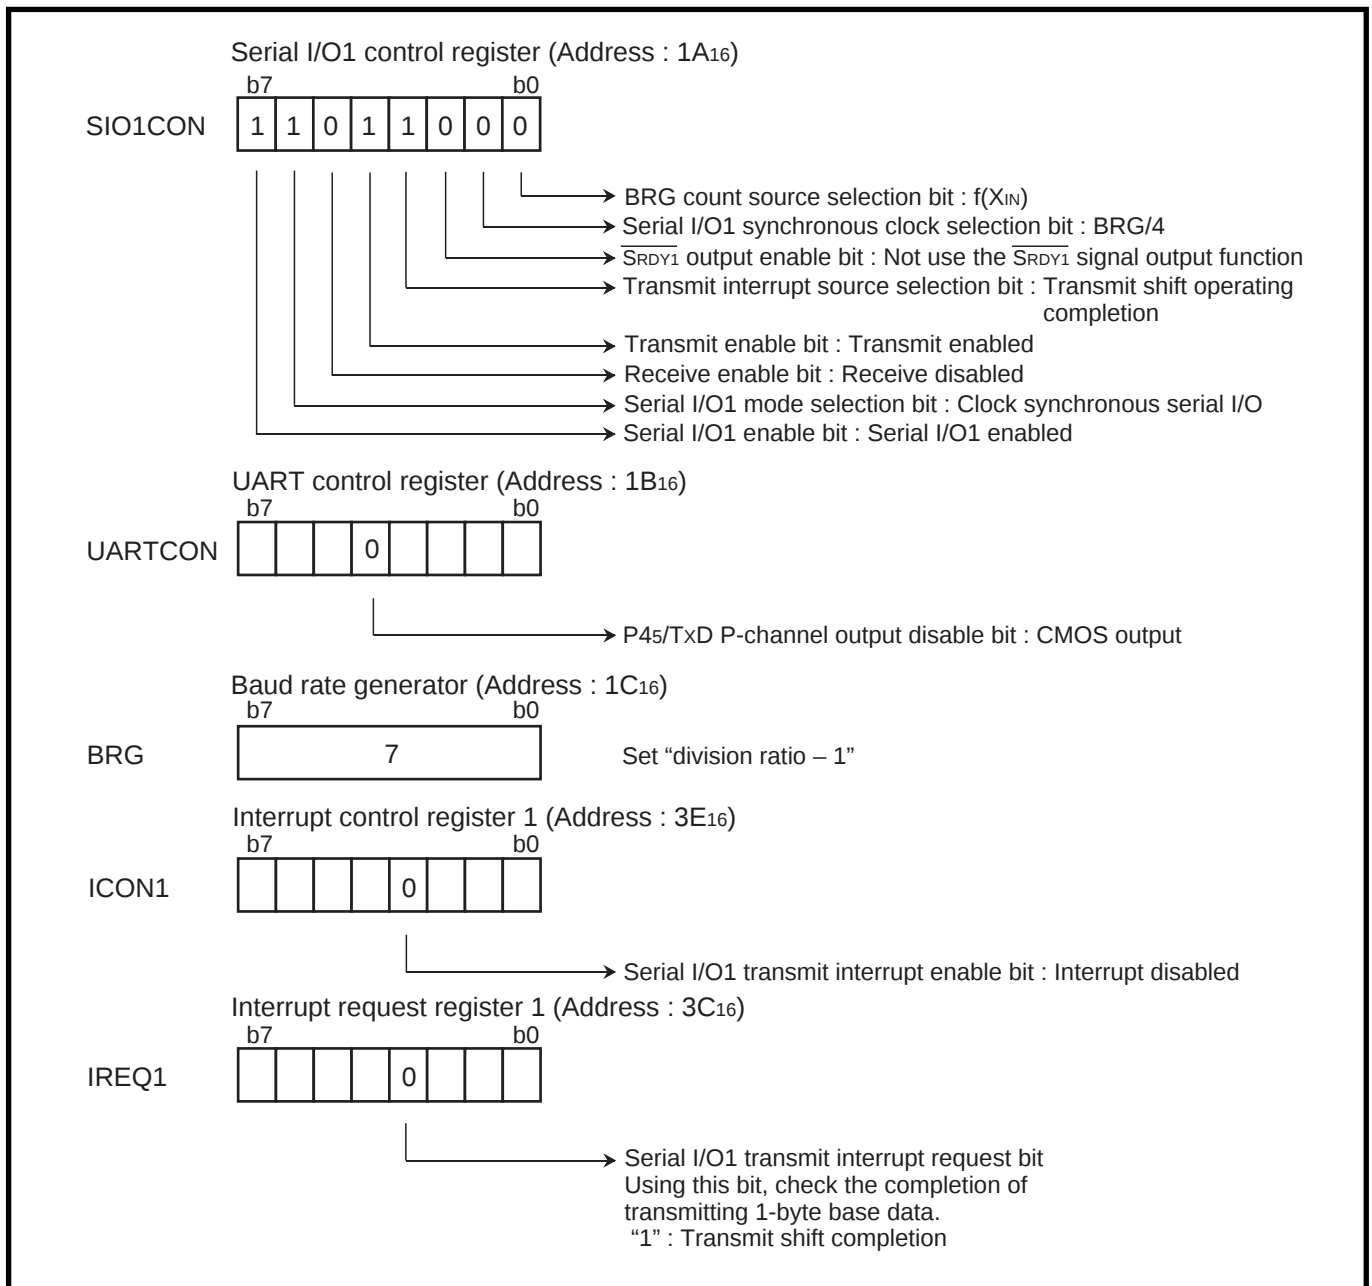
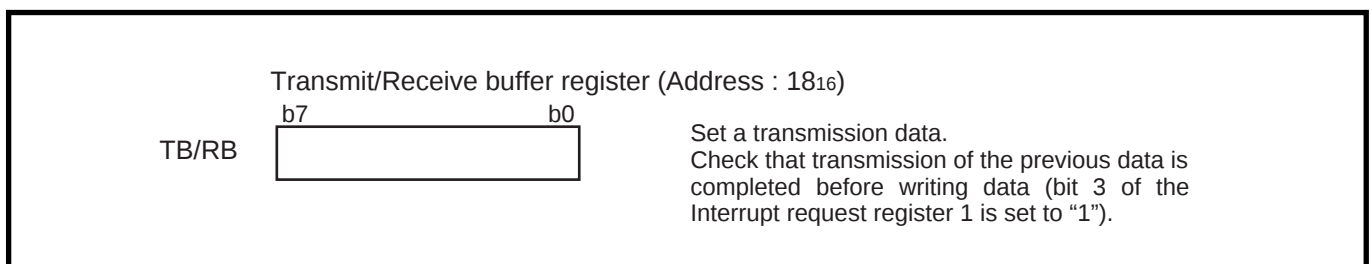
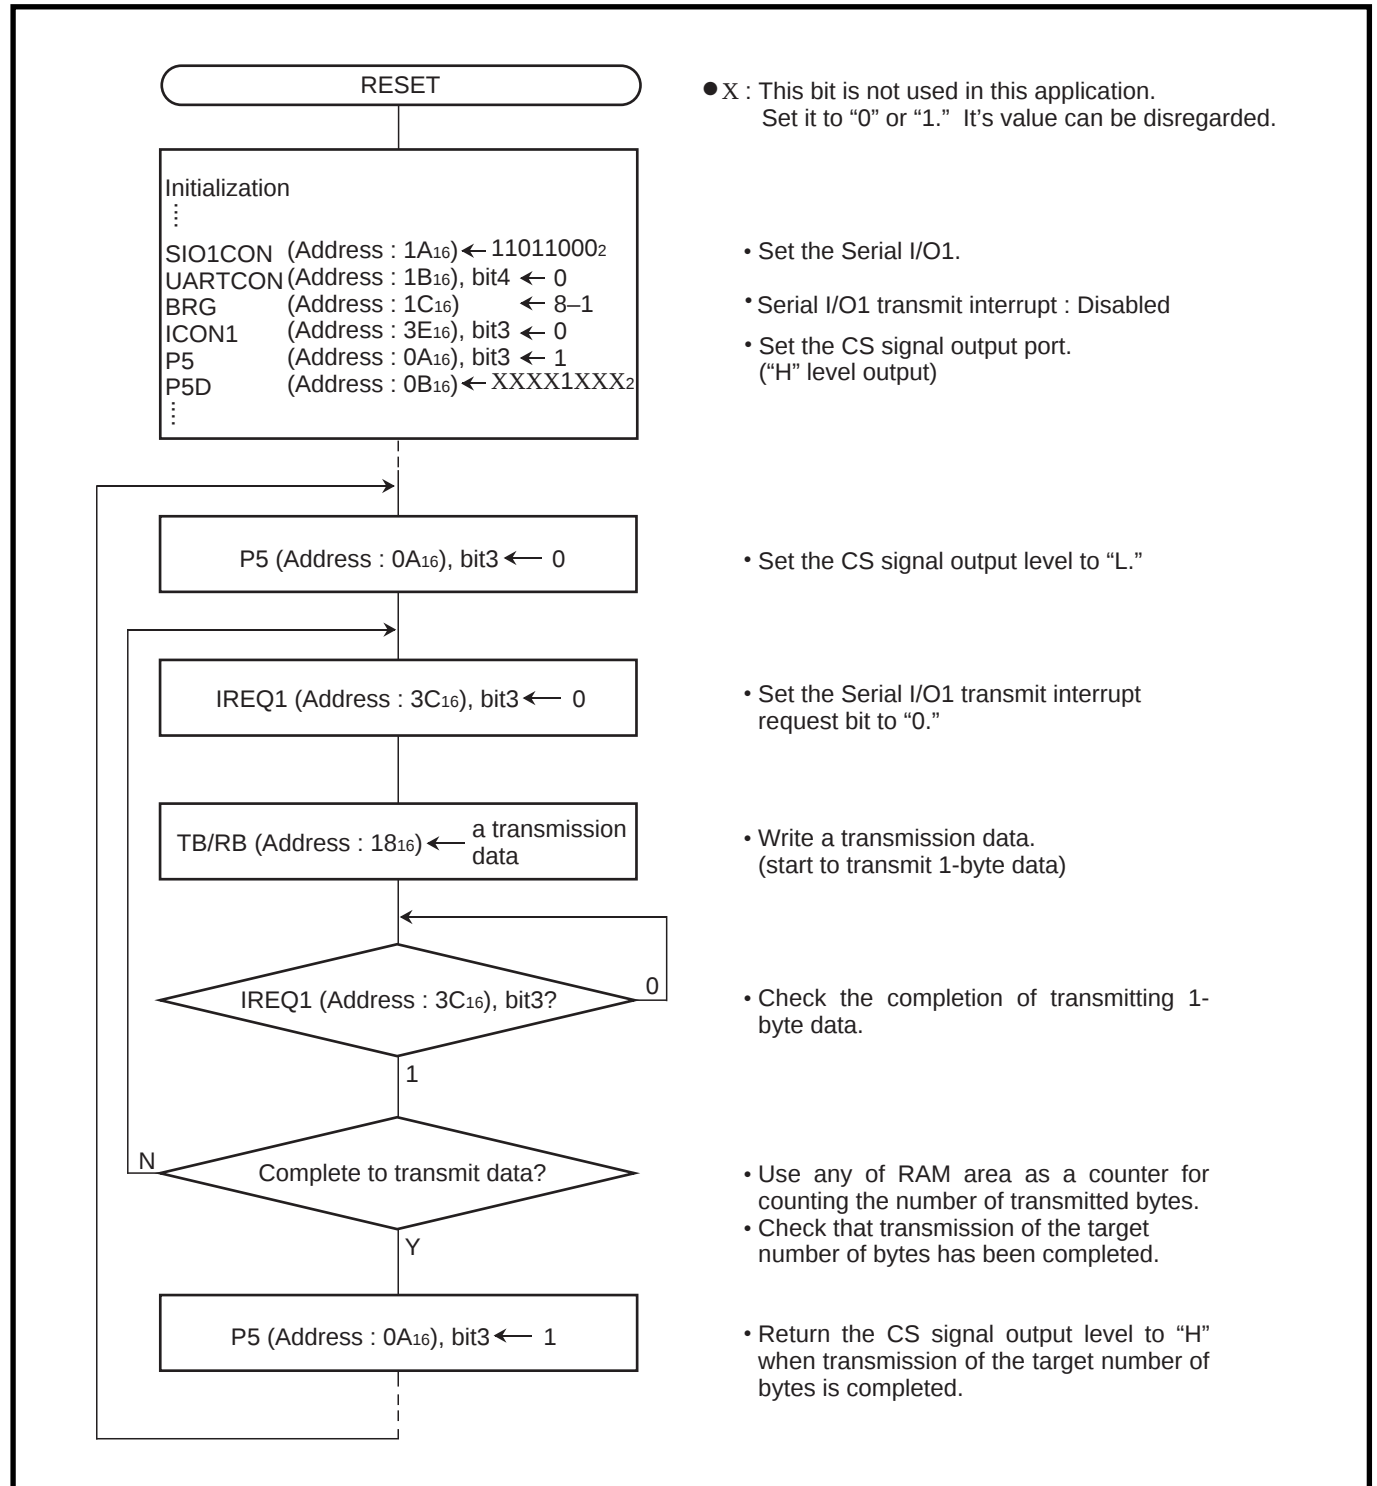

Fig. 2.3.25 Setting of serial I/O1 related registers [Output of serial data]
Fig. 2.3.26 Setting of serial I/O1 transmission data [Output of serial data]
Fig. 2.3.27 Control procedure of serial I/O1 [Output of serial data]
Figure 2.3.25 shows a setting of serial I/O1 related registers, and Figure 2.3.26 shows a setting of serial I/O1 transmission data.
**Control procedure :** When the registers are set as shown in Fig. 2.3.25, the Serial I/O1 can transmit 1-byte data simply by writing data to the Transmit buffer register. Thus, after setting the CS signal to “L,” write the transmission data to the Receive buffer register on a 1-byte base, and return the CS signal to “H” when the desired number of bytes have been transmitted. Figure 2.3.27 shows a control procedure of serial I/O1.